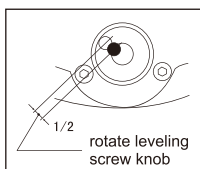

fig.8
1. Rotate the leveling screw knob 9 to ensure the air bubble moving toward to the center of circular bubble vial, the deviation should be at $1/2$ between the center and the end position (see fig.8)